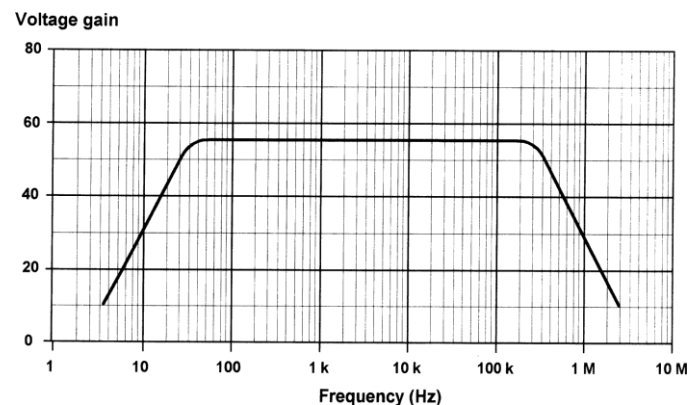

Figure 7.53 See Question 7.3
- 7.3 Determine the mid-band voltage gain and upper and lower cut-off frequencies for the amplifier whose frequency response curve is shown in Fig. 7.53. Also determine the voltage gain at frequencies of: